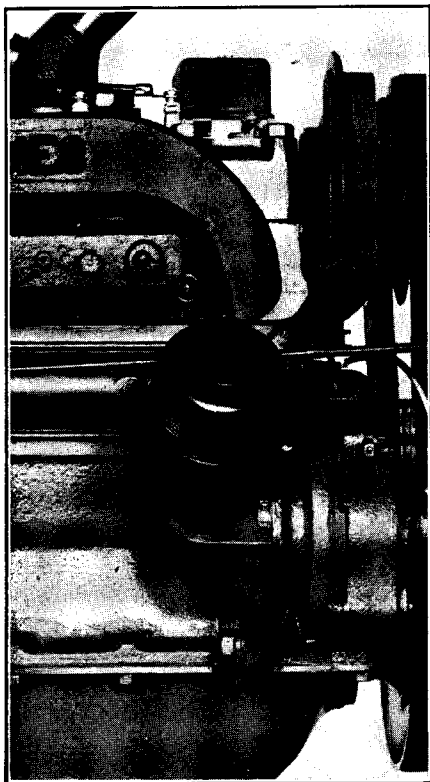

Figure No. 1
2. Remove breather cap, see Illustration No. 10, Fig. No. 1 and 2.